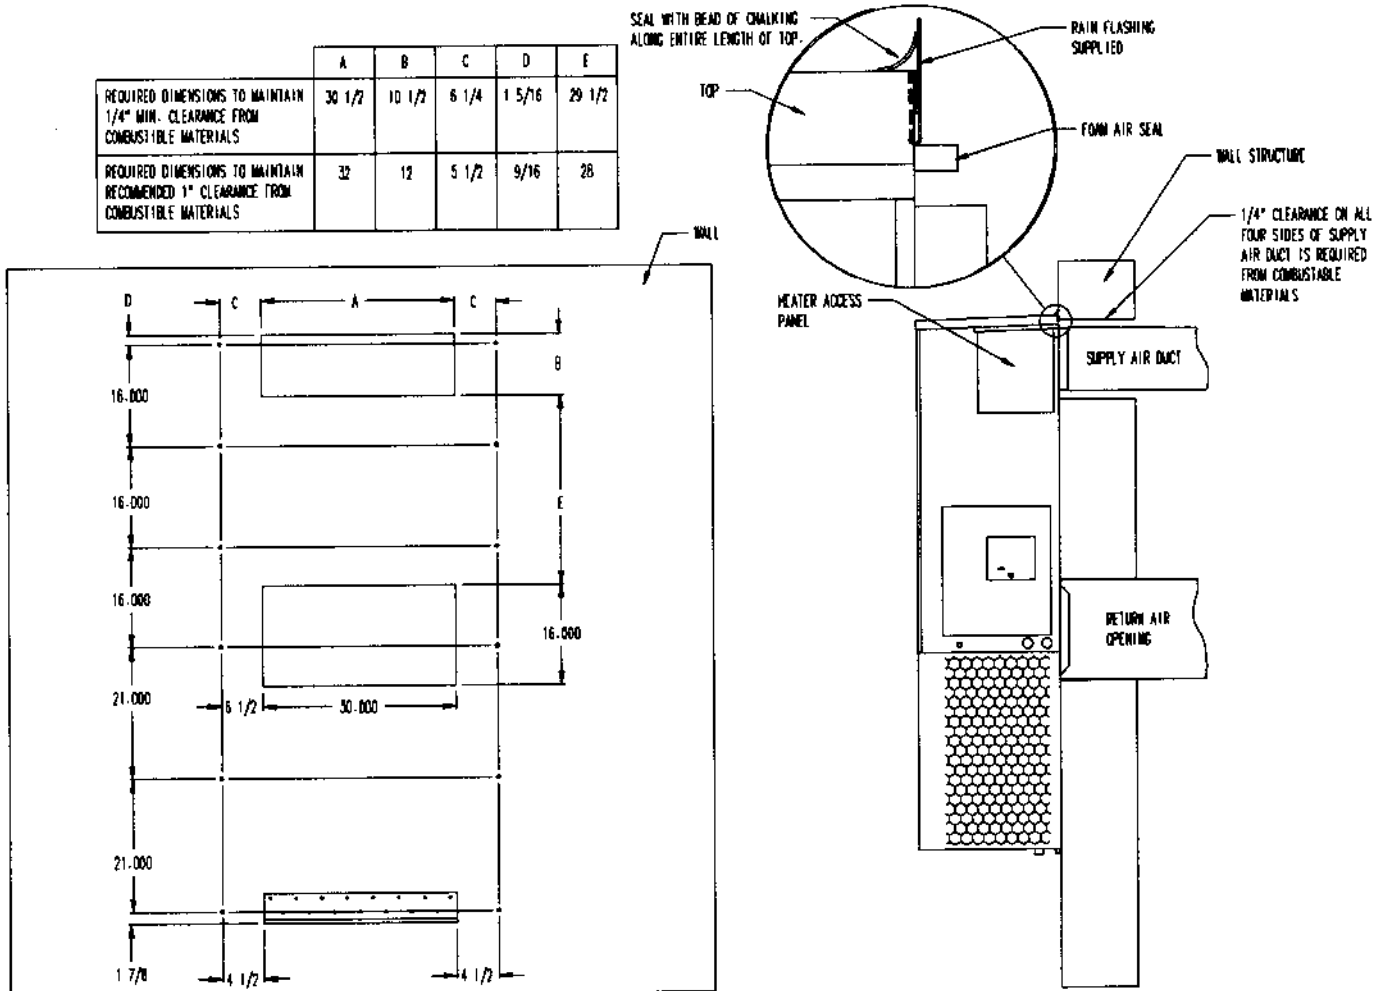

Figure 2 — Mounting Instructions
A 1/4-inch clearance to combustible material for the first three feet of duct attached to the outlet air frame is required. See Wall Mounting Instructions and Figures 2 and 3 for further details.
1. Two holes, for the supply and return air openings, must be cut through the wall as shown in Figure 2.
Fire hazard can result if 1/4-inch clearance to combustible materials for supply air duct is not maintained. See Figure 2.
2. The unit itself is suitable for "0" inch clearance, but the supply air duct flange and the first 3 feet of supply air duct require a minimum of 1/4-inch clearance to combustible material. If a combustible wall, use a minimum of 30-1/2" x 10-1/2" dimensions for sizing. However, it is generally recommended that a 1-inch clearance is used for ease of installation and maintaining the required clearance to combustible material. The supply air opening would then be 32" x 12". See Figures 2, 3 and 6 for details.
3. Locate and mark lag bolt locations and bottom mounting bracket location. See Figure 2.
7. Secure rain flashing to wall and caulk across entire length of top. See Figure 2.